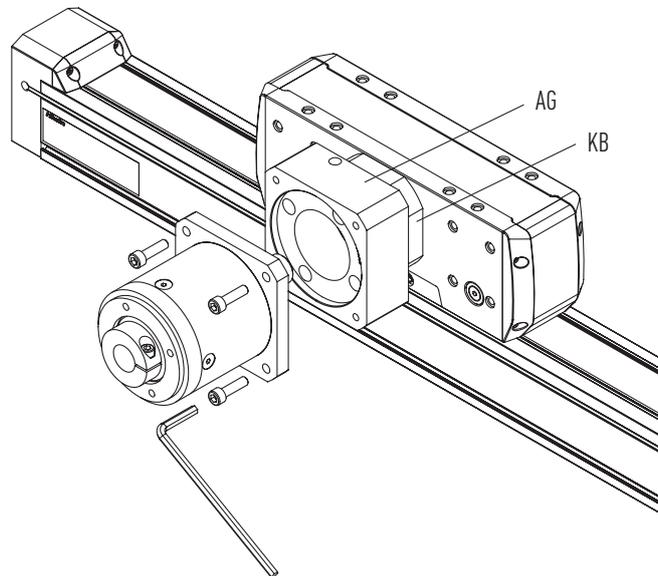

Fig. 6.95 **Bolting the gears to the cantilever axis**
- ▶ Place the gears flat on the gear adapter plate AG (see Fig. 6.95).